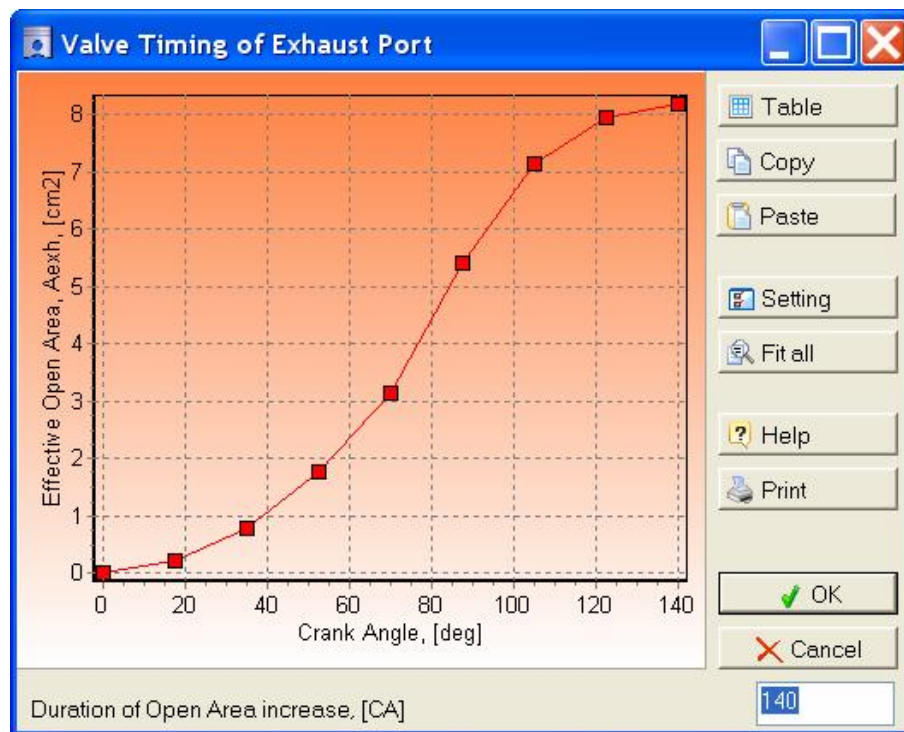

Fig. 7. Exhaust port effective flow area (rise).
- Results of the steady flow testing of exhaust ports (the effective flow area [cm²] as a function of CA). Specify only site of rise (fig. 7). Data in MS Exel format are acceptable. Put attention: first point ordinate must be equal 0 and MUST be corresponded with EVO. Same with EVC.
- Effective flow area vs. CA for the valve downwards motion (similar to shown in above figure 7)
- Results of the steady flow testing of intake ports (the effective flow area [cm²] as a function of CA). Specify only site of rise (fig. 7). Data in MS Exel format are acceptable. Put attention: first point ordinate must be equal 0 and must be corresponded with IVO. Alike with IVC.